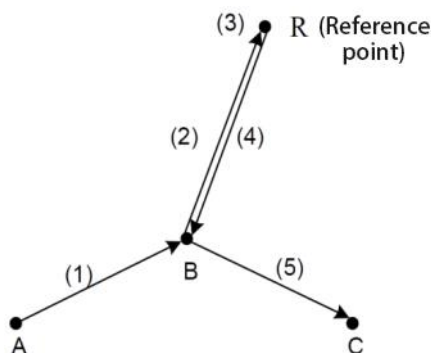

Fig. 3-3-1-1
1. The action of the G28 program segment can be decomposed as follows (see Fig. 3-3-1-1):